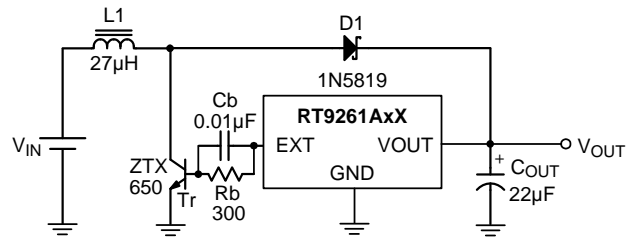

Figure 2
- (1) Unless otherwise provided, VIN = 1.8V, VSS = 0V, IOUT = 10mA, TOPT = 25°C, and External Circuit of Typical Application
- (2) Unless otherwise provided, VIN = 3V, VSS = 0V, IOUT = 10mA, TOPT = 25°C, and External Circuit of Typical Application
**Electrical Characteristics** (Refer to Figure 2)